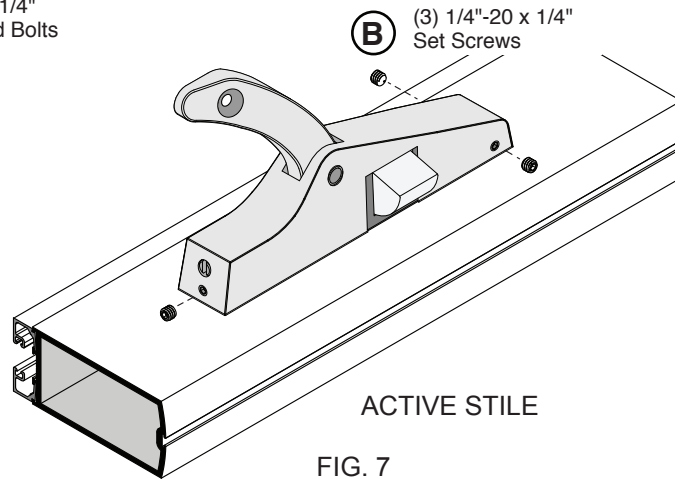

FIG. 7
2. Secure the Active Body and Arm Assembly using (3) **(B)** 1/4"- 20 x 1/4" Set Screws. (Fig. 7)